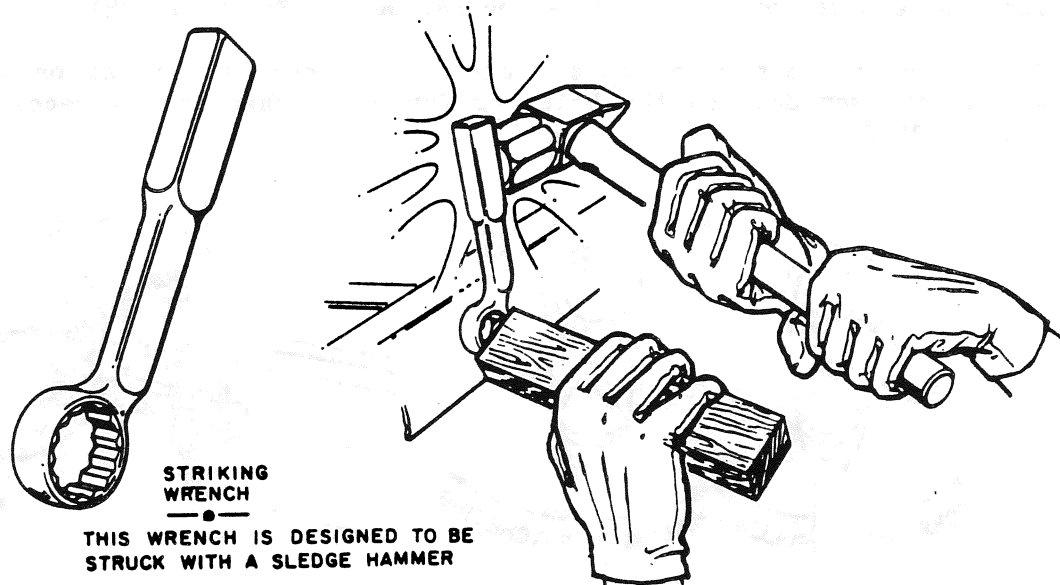

Figure 10.27. Sledging Wrench
3. Sledges are used for heavy work, where great force is needed, such as: slug wrench applications, driving stakes or breaking up rock. (See Figure 10.27.)